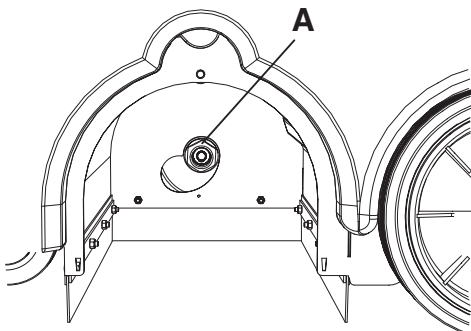
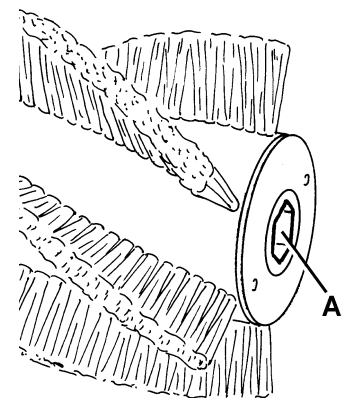

Figure 6
Figure 8
9. Check that the drive hub (A, Fig. 6) is free from dirt or foreign materials (ropes, rags, etc.) accidentally rolled up.
11. Install the new main broom and ensure that the mesh (A, Fig. 8) correctly fits into the relevant drive hub (A, Fig. 6).